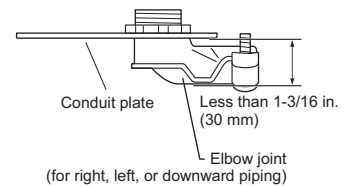

Fig. 2
- Attach conduit pipe (for rear piping) / elbow joint (for right, left, or downward piping) to conduit plate with lock nut. The thread of the installed conduit pipe / elbow joint appearing inside should be less than 3/8 in. (10 mm). (Fig. 1) Elbow joint should appear less than 1-3/16 in. (30 mm) outside. (Fig. 2)
- Pull out the drain hose at the back left of the indoor unit. (Fig. 2)
- If the drain hose provided with the indoor unit is too short, connect it with a field-supplied drain hose (I). (Fig. 2)